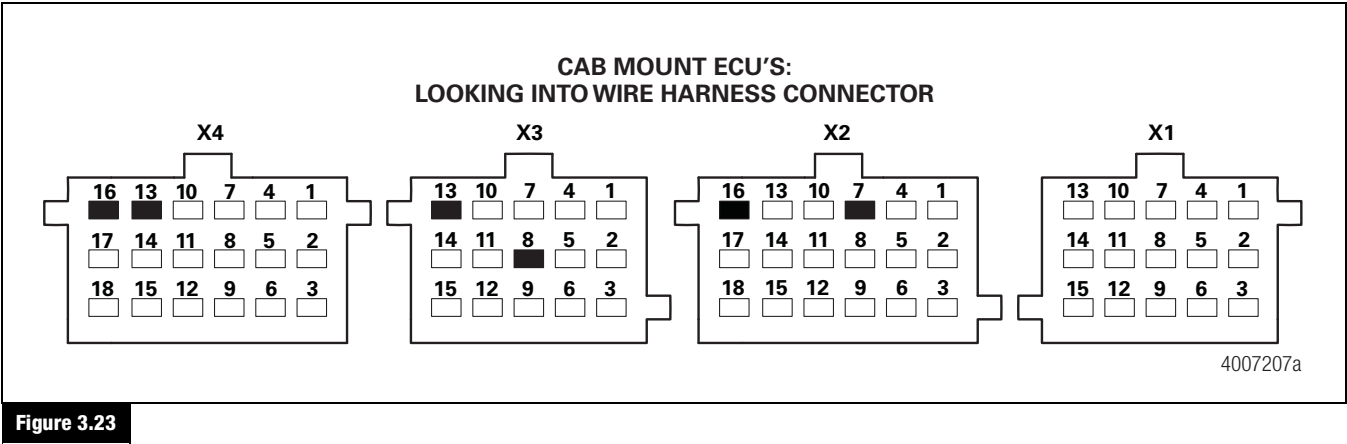
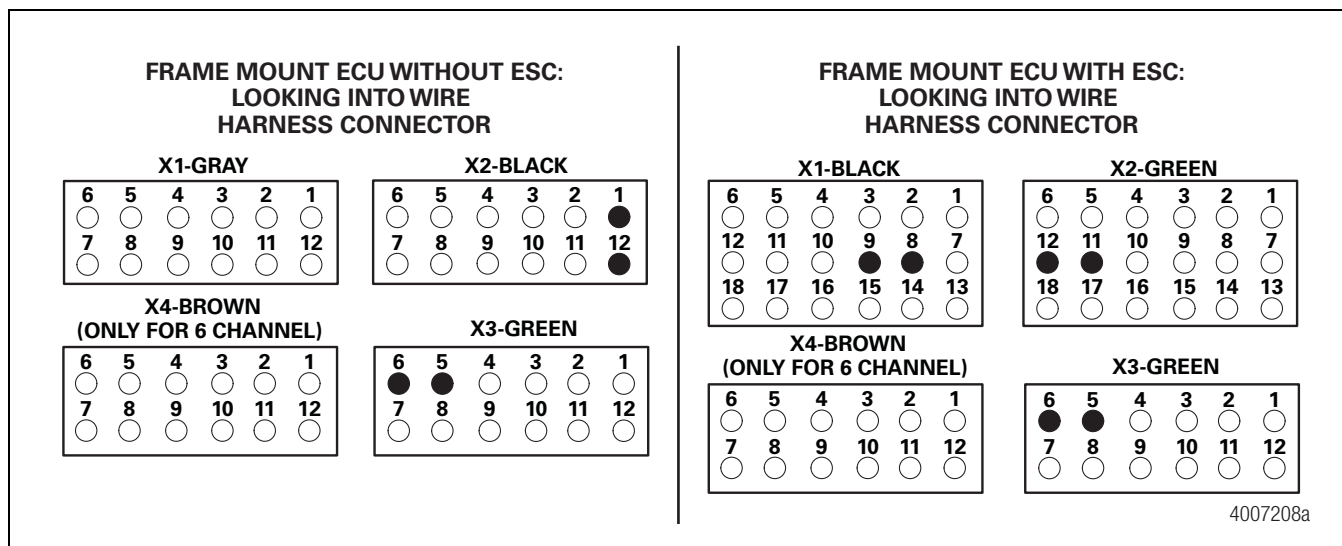

Figure 3.23
Figure 3.24
- Check ECU harness and ABV 3/2 solenoid together for resistance. Figure 3.23 and Figure 3.24.